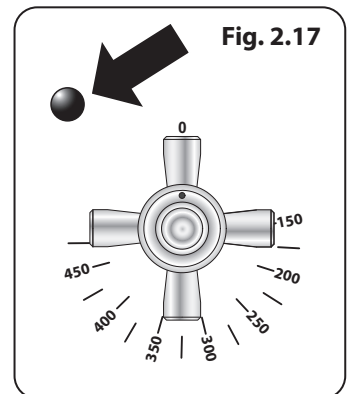

Fig. 2.17
2. The oven indicator light will glow until the oven has reached the temperature selected. It will then cycle on and off during cooking (**Fig. 2.17**).